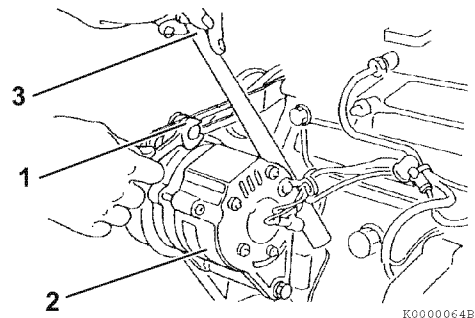

Figure 5-5
2. If necessary, adjust the V-belt tension. Loosen the adjusting bolt (**Figure 5-5, (1)**) and the other related bolts and/or nuts, then move the alternator (**Figure 5-5, (2)**) with a pry bar (**Figure 5-5, (3)**) to tighten the V-belt to the desired tension. Then tighten the adjusting bolts and/or nuts.